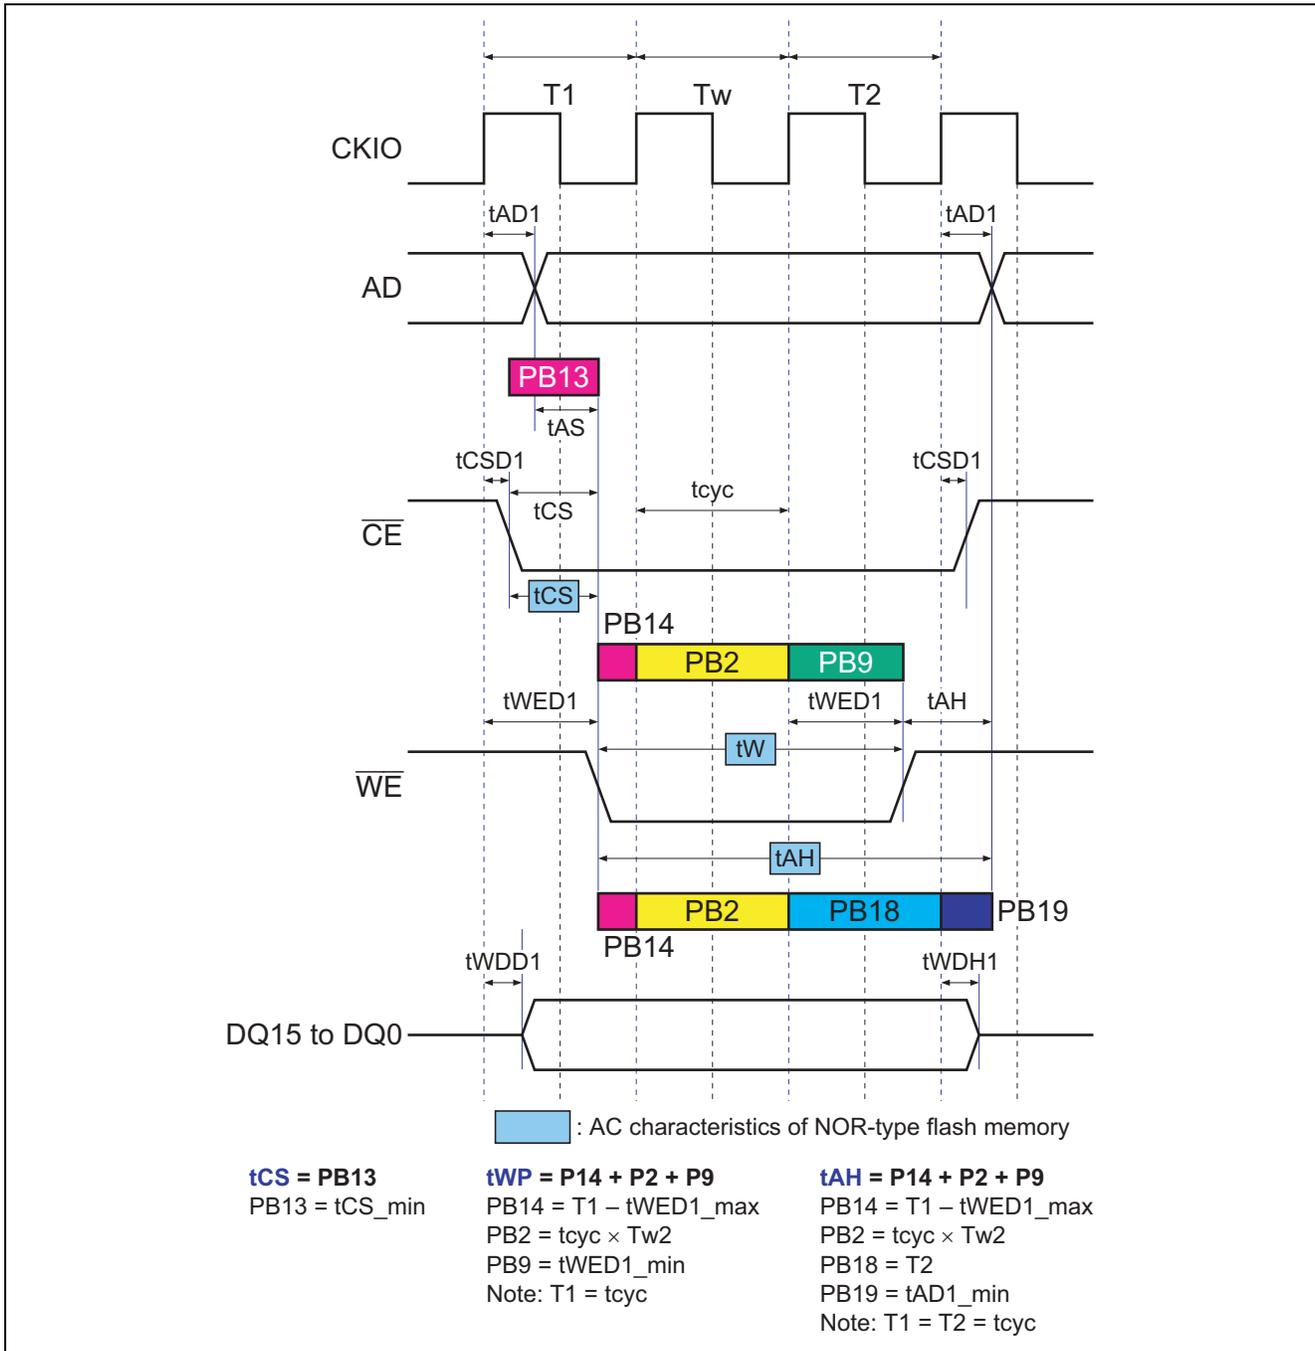

Figure 14 Write Timing of NOR Flash Memory When W = 1 (5)
$$t_{CS}(\min) \leq \underbrace{t_{CS_min}}_{PB13} \dots\dots\dots \text{(figure 14)}$$
$$t_{AH}(\min) \leq \underbrace{(T1 - t_{WED1_max})}_{PB14} + \underbrace{(tcyc \times Tw)}_{PB2} + \underbrace{(T2)}_{PB18} + \underbrace{(t_{AD1_min})}_{PB19} \dots\dots\dots \text{(figure 14)}$$
- tWP of NOR flash memory (write pulse width) (figure 14)
Figure 14 shows write timing for NOR flash memory (5).